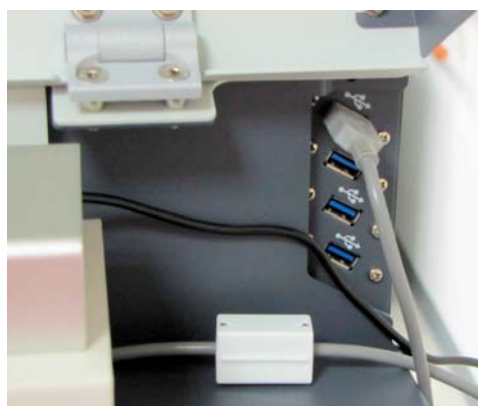

Figure 5-11. USB ports
1. Use the USB cable of the syringe pump to connect it to a USB port in the accessories cabinet of the Orbitrap Exploris 480 mass spectrometer. See Figure 5-11. This allows controlling the syringe pump by the instrument software.
1. Connect the USB cable to the mating connector on the back of the switching valve. The USB ports of the mass spectrometer are located in the accessories cabinet of the mass spectrometer. See Figure 5-11 on page 5-22.